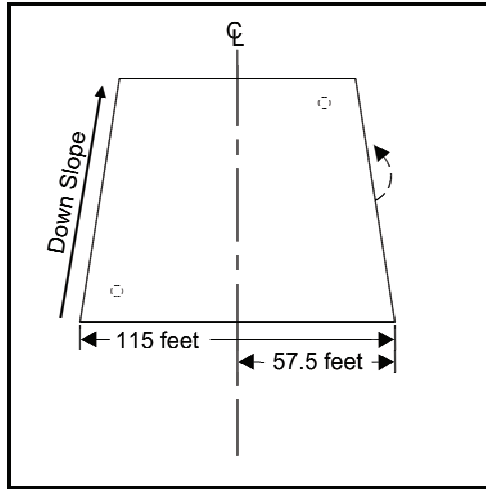

Figure 14. First 7.5 foot fold.
1. Fold one edge over 7.5 feet (Figure 14).